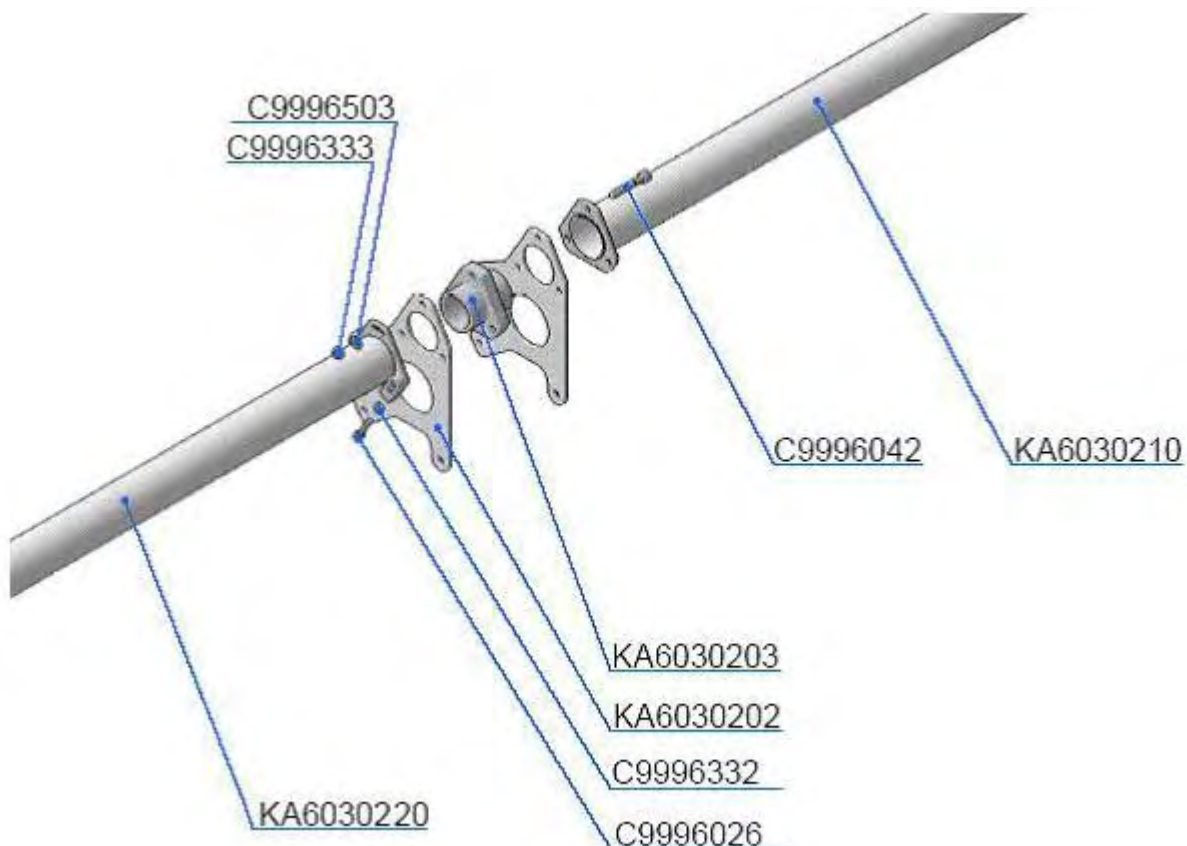

Fig. 7
- 1) Unscrew the lock-nut C9996332 (Self-locking nut DIN 985-M4, regular) by a 7 wrench towards the head of the bolt and release the bolts C9996026 (Bolt DIN 912 M4x20-8.8), Fig. 7.
- 2) Unscrew the bolts C9996026 (Bolt DIN 912 M4x20-8.8) 5 turns from the flange of the flap rod KA6030220 (Transverse rod tube, left) by a 3 hex-nut wrench. Fig. 7.
- 3) Unscrew the nuts C9996333 (Self-locking nut DIN 985-M5, regular) from the bolts C9996042 (Bolt DIN 912 M5x45-8.8) by an 8 wrench and 4 hex-nut wrench. Fig. 7.
(Transverse rod tube, left) by 3 hex-nut wrench up to bolts C9996042 (Bolt DIN 912 M5x45-8.8). Fig. 7.